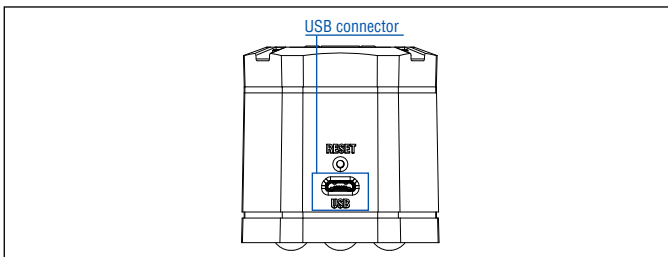

Fig. 99: USB port on the TempoLink® smart assistant
1. Connect the USB cable with the micro USB connector to the port labeled “USB” on the TempoLink® smart assistant (Fig. 99).